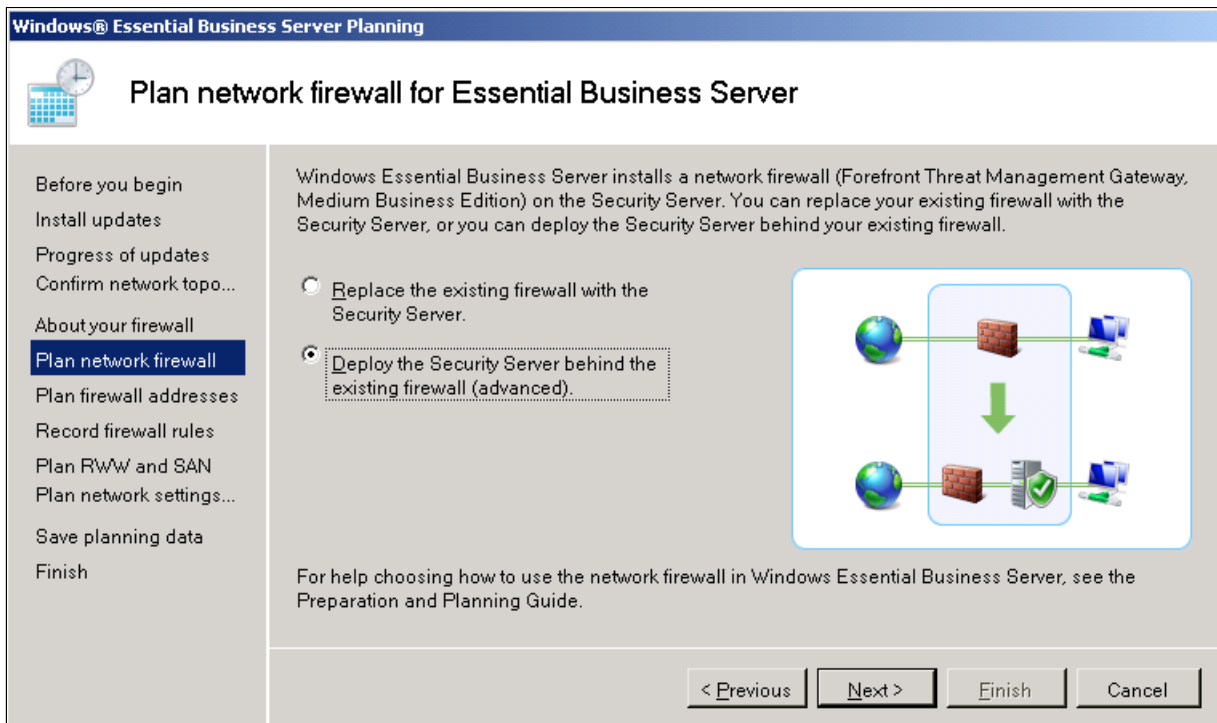

Figure 3-12 Firewall options
4. Select the appropriate option in the “Plan network firewall for Essential Business Server” panel (Figure 3-12).